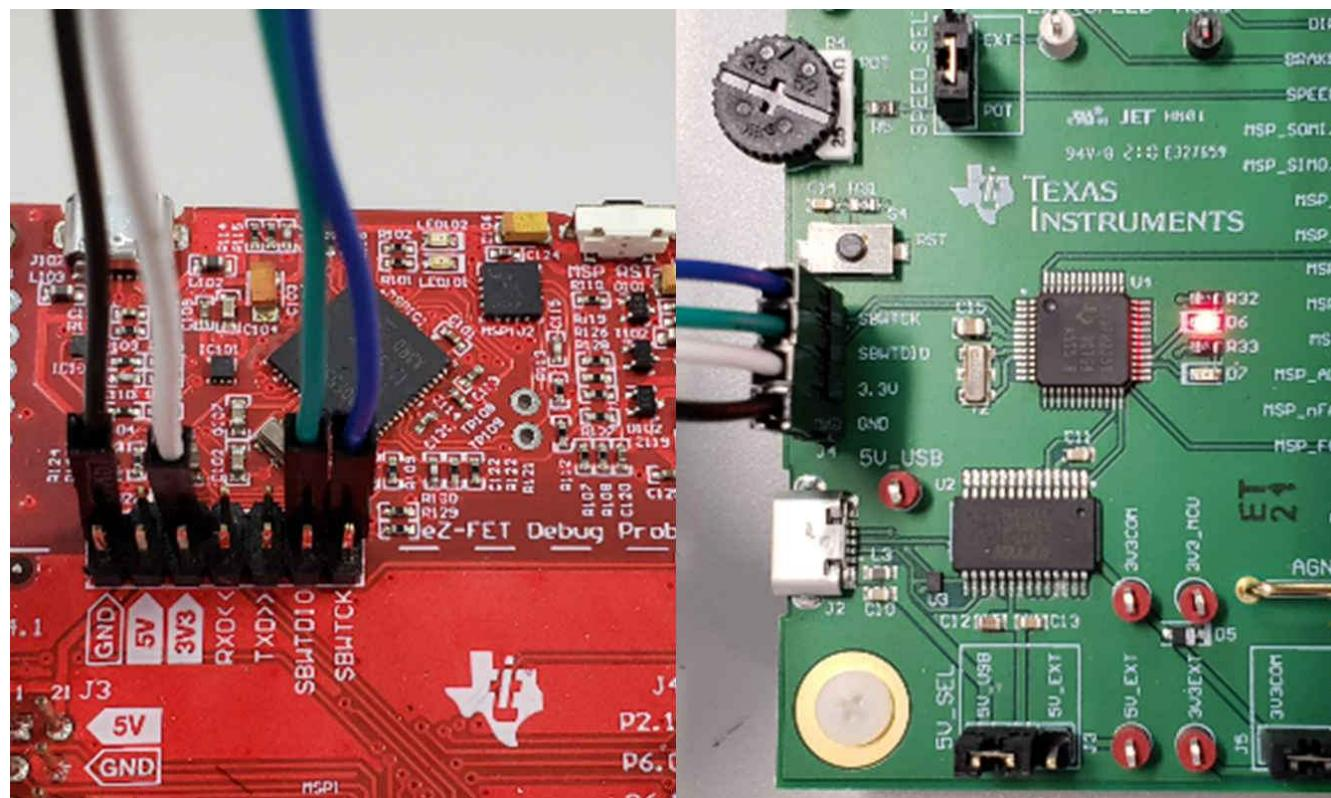

Figure 7-2. MSP430 LaunchPad™ eZ-FET Probe Connected to MCT8316AEVM
2. Connect the top pins on the eZ-FET side of the LaunchPad of the GND, 3V3, SBWTCK, and SBWTdio signals to their respective pins on J4 of the MCT8316AEVM as shown in Table 7-1 and Figure 7-2.